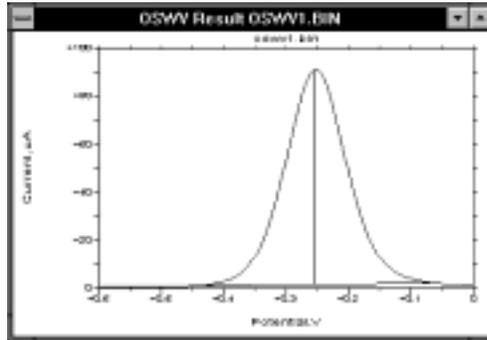

Figure 7-3. Symmetric current response.
- a) **Symmetric** curves - The baseline is the line between the two current minima in the range of $E_p + 250$ mV (Figure 7-3).